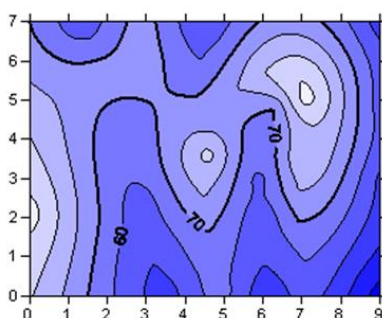

Figure 1.136 – Contour labels can be moved, added, or deleted
4. To move a contour label, click on the label, hold down the left mouse button, and drag the label. Move the 70-contour label on the right portion of the map to the north, fig. 1.136.